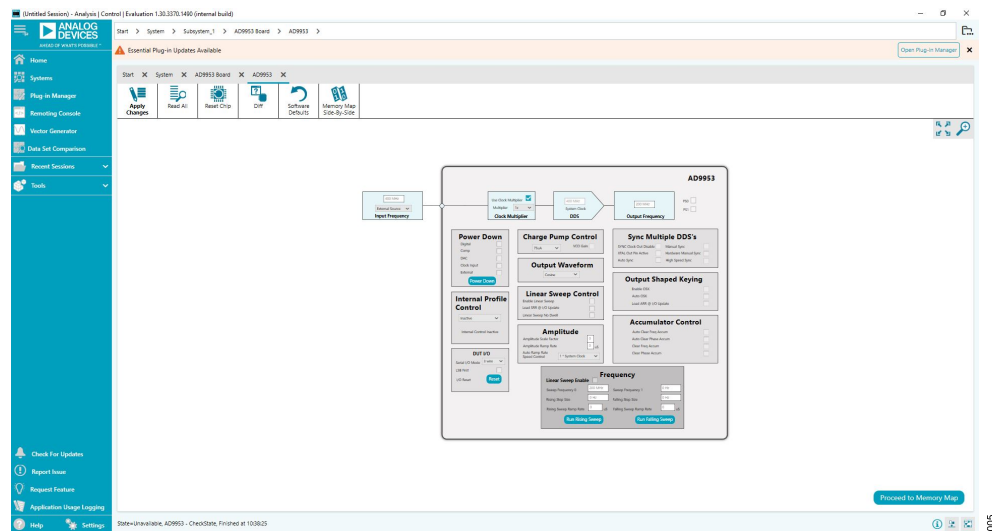

Figure 5. ACE Software Front Panel
3. Double-click the **AD9953** icon that appears on the board GUI to open the main control window shown in Figure 5.
The main controls are shown in the Figure 5. To modify any controls, take the following steps:
2. Modify any **ACE Software** front panel settings as required (see Figure 5).
3. Click **Apply Changes** to load the modified settings to the AD9953, which then performs the write sequence. If the **System Clock** frequency and **Output Frequency** selected are outside of the operational range, an error message will appear within the GUI. Specific blocks can be powered down by setting the corresponding power-down check boxes within the **Power Down** section shown in Figure 5.
The **Input Frequency** section shown in Figure 5 allows users to configure the reference clock.
The **Clock Multiplier** section shown in Figure 5 allows users to select the phase-locked loop (PLL) multiplication factor ($4\times$ to $20\times$) by which to scale the input frequency. The default setting of this dropdown menu is **x1**, indicating that the **Clock Multiplier** circuitry is bypassed and that the input frequency and crystal input are piped directly to the DDS core.
The **System Clock** section shown in Figure 5 displays the operating frequency of the DDS core (system). The value within this box is derived from the value entered and selected in the **Input Frequency** section and the **Multiplier** selected in the **Clock Multiplier** section by the user.
To customize the channel output configuration, go to the **Output Frequency** section shown in Figure 5. By default, the channel output operates in single tone mode.
Users can go to the **Power Down** section shown in Figure 5 to power down any of the following:
To control the current settings on the charge pump, go to the **Charge Pump Control** section shown in Figure 5. The default value of the charge pump current is **75µA**. Other dropdown menu options included the following: **100µA**, **125µA**, or **150µA**.
In the **Output Waveform** section shown in Figure 5, users can select either a **Cosine** or a **Sine** function for the angle-to-amplitude conversion. The default setting is **Cosine**.
Use the **Linear Sweep Control** section shown in Figure 5 to control the linear sweep features.
Use the **Amplitude** section in Figure 5 to set the **Amplitude Scale Factor**, **Amplitude Ramp Rate**, and **Auto Ramp Rate Speed Control**.
Use the **Frequency** section of Figure 5 to setup the slope of the linear sweep.
The SYNC_CLK pin is active by default within the **Sync Multiple DDS's** section of see Figure 5. When the **SYNC Clock Out Disable** feature is enabled (checked off), the SYNC_CLK pin assumes a static Logic 0 state to minimize the noise generated by the digital circuitry. The synchronization circuitry remains active internally to maintain the device timing.
The shaped on-off keying function is enabled or disabled using the **Output Shaped Keying** section shown in Figure 5 by enabling (checking off) **Enable OSK**. The OSK function allows users to control the ramp-up time and ramp-down time when turning the DAC on or off. This function is primarily used in burst transmissions of digital data to reduce the adverse spectral impact of short, abrupt bursts of data.
In the **Accumulator Control** section of Figure 5, the following options are available:
The **DUT I/O** section shown in Figure 5 controls the I/O configuration for the device. Click the **Reset** button of the **I/O Reset** to send an I/O reset to the corresponding serial port state machine. Select the **LSB First** box to change the data format to LSB first from the default setting of MSB first. Use the **Serial I/O Mode** dropdown menu to select the desired I/O mode of operation: **2 wire** or **3 wire** (default).